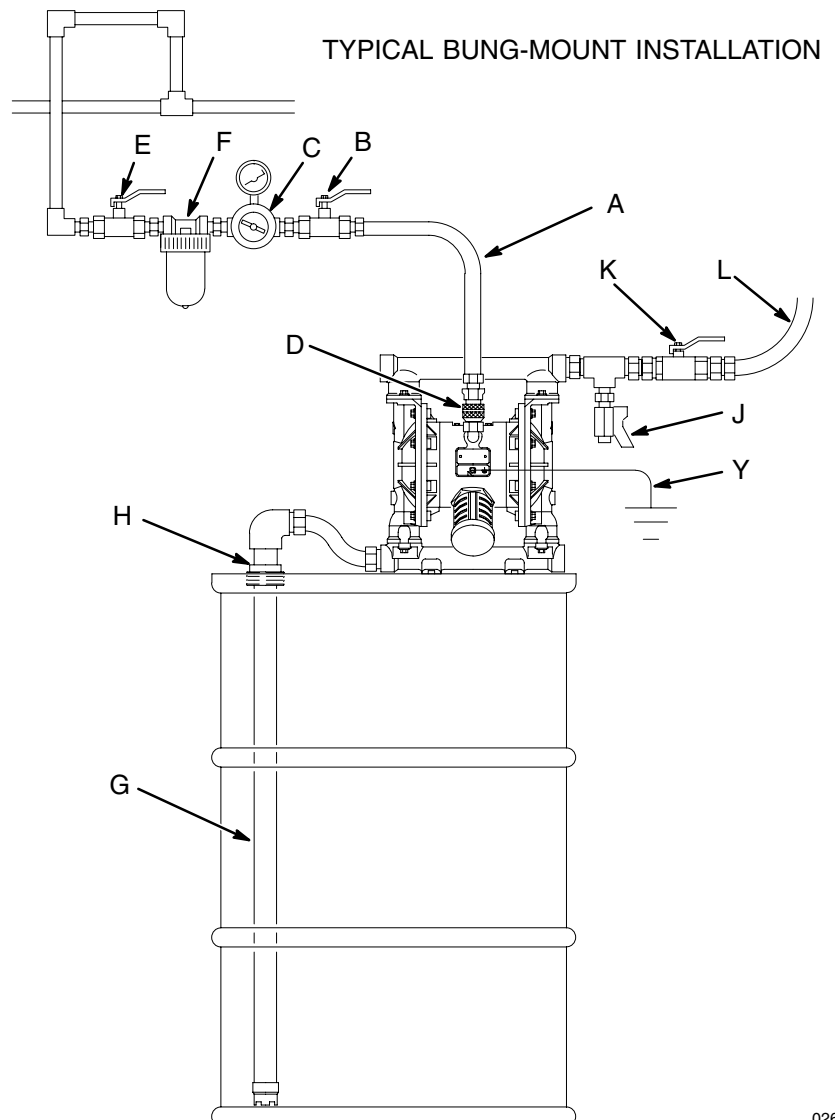

Fig. 2
- The Typical Installations shown in Figs. 2–4 are only guides for selecting and installing system components. Contact your Graco distributor for assistance in planning a system to suit your needs.
1. Install the air line accessories as shown in Figs. 2–4 on pages 7 and 9. Mount these accessories on the wall or on a bracket. Be sure the air line supplying the accessories is grounded.
- a. Install an air regulator (C) and gauge to control the fluid pressure. The fluid outlet pressure will be the same as the setting of the air regulator.
- b. Locate one bleed-type master air valve (B) close to the pump and use it to relieve trapped air. See the **WARNING** above. Locate the other master air valve (E) upstream from all air line accessories and use it to isolate them during cleaning and repair.
- c. The air line filter (F) removes harmful dirt and moisture from the compressed air supply.
2. Install a fluid drain valve (J) near the fluid outlet. See the **WARNING** above, and Figs. 2–4 on pages 7 and 9.
3. Install a shutoff valve (K) in the fluid outlet line.
KEY FOR FIG. 2